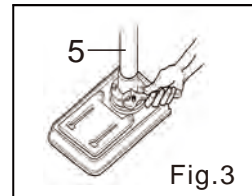

Fig.3
Align the three threaded holes on the base plate(7) with the column(5) support holes. Secure with the three bolts. Do not over tighten as this could crack the cast base plate(7) and column(5) support(Fig.3).